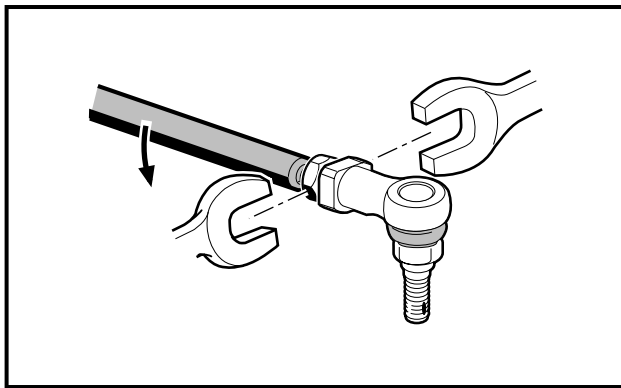

Figure 7-9 Ball Joint
1. Using the double-wrench method, remove the two ball joints and inspect them for excessive wear (**Figure 7-9, Page 7-8**).